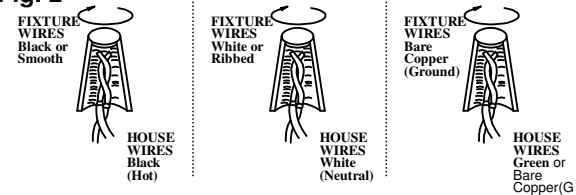

Fig. 3
6. Place the fixture over the mounting screws (E), and secure with lock nuts (F).
7. To prevent moisture from entering the outlet box and causing a short, use clear caulking (i.e. Indoor/Outdoor Silicone Sealant) to outline the outside of fixture backplate where it meets the wall leaving a space at bottom to allow moisture a means to escape. (Fig. 3)
8. Bulb (G) information: (1 x AC LED 10W included.)